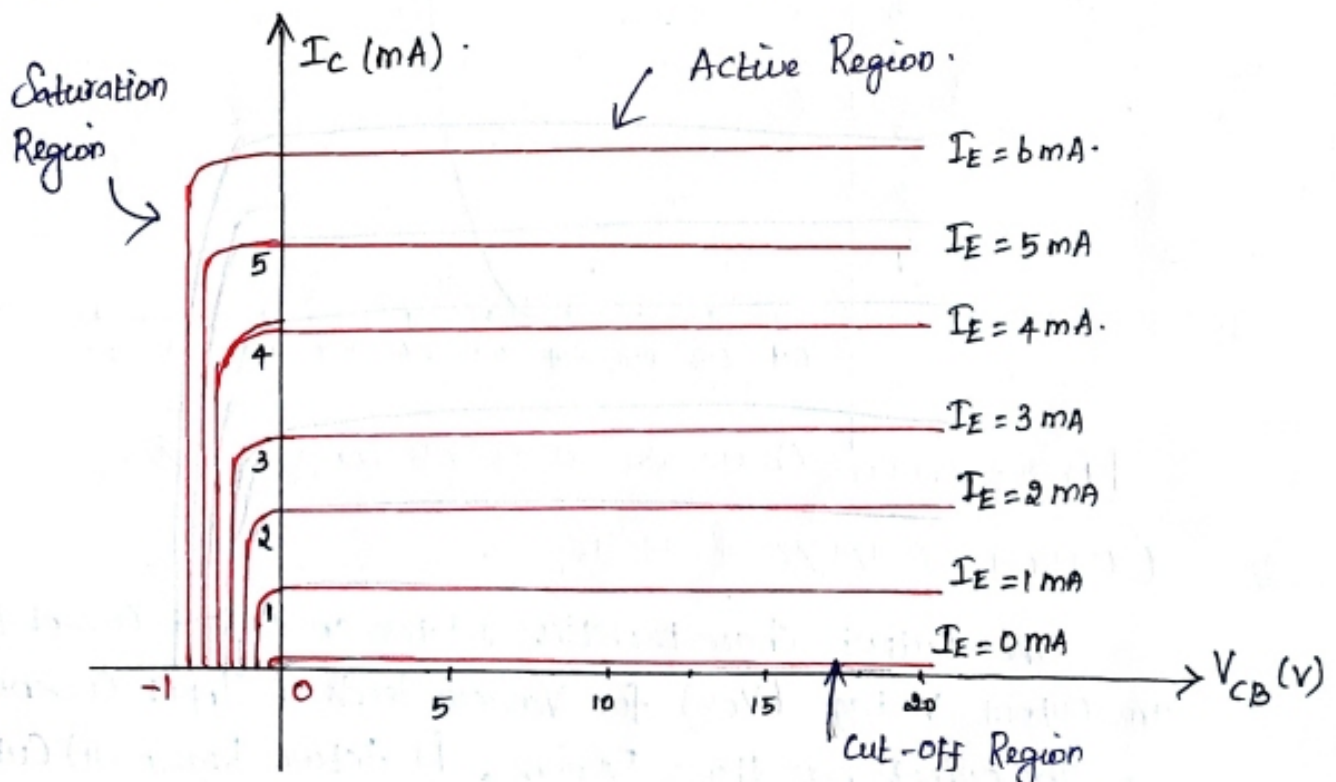

Fig. 3. Output Characteristics
- The output has three Regions, i) Active Region ii) Cut-off Region and iii) Saturation Region as shown in fig. 3.